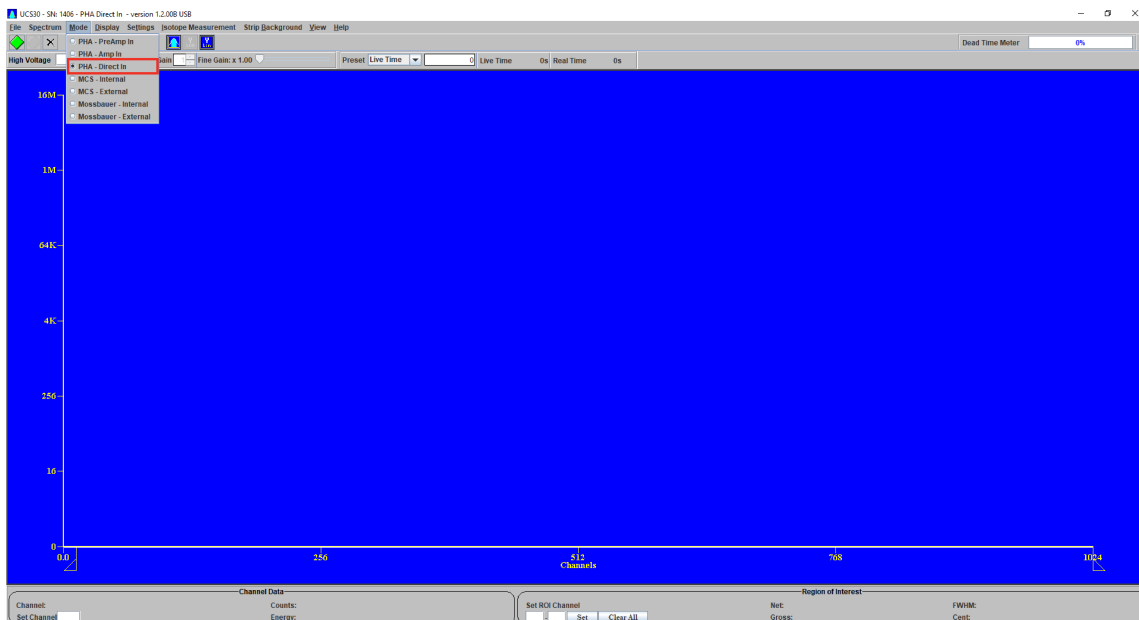

Figure 1: Location of the PHA - Direct In mode in the USX software
- Ensure that UCS30 Mode is correct, that is, set to PHA - Direct In (see figure 1)